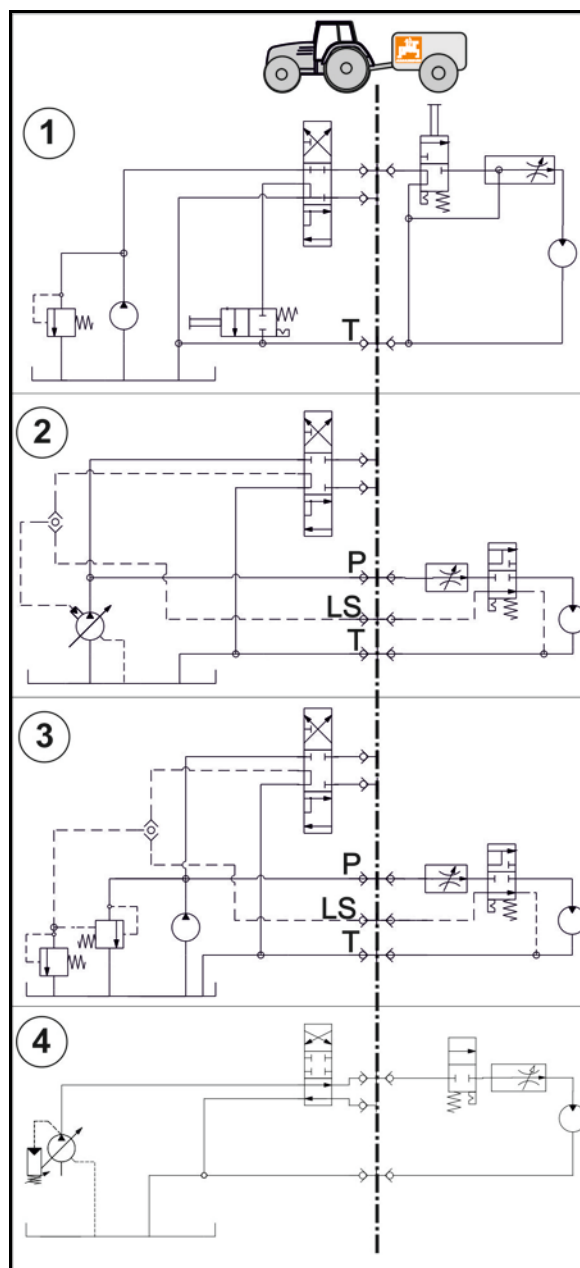

Fig. 117
- Keep the distance between the coupling point and position encoder (Fig. 117/ X) as small as possible (particularly with the hitch drawbar).